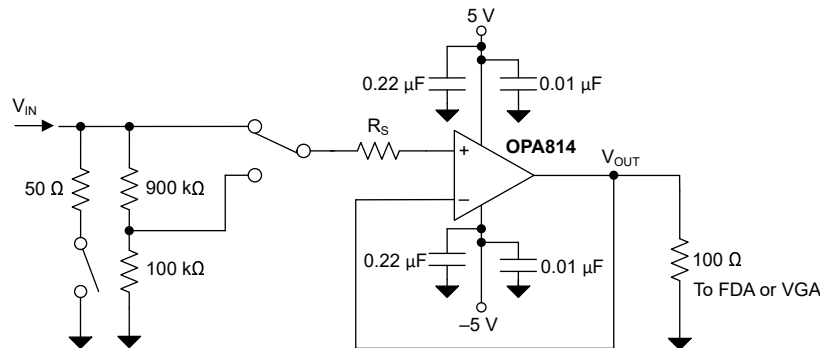
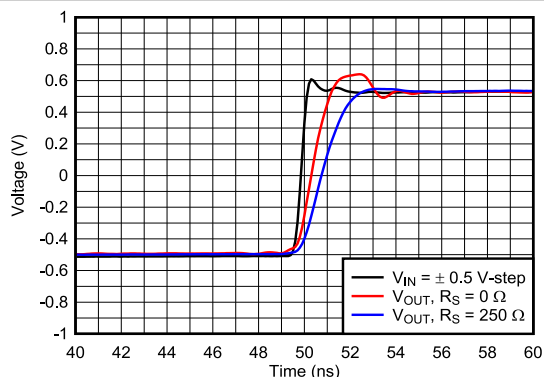
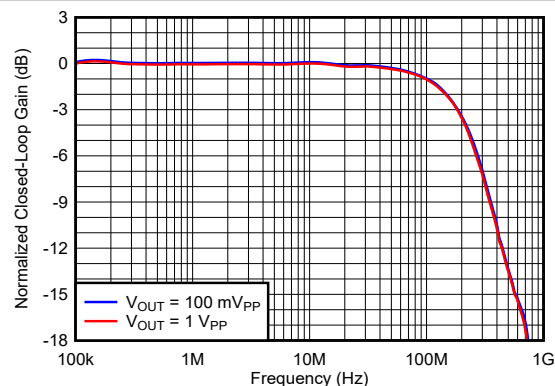

図 8-4. High-Input-Impedance, 180-MHz, Digitizer Front-End Amplifier
Figure 8-5. Step Response of Digitizer Front-End
Figure 8-6. Frequency Response for $R_S = 250 \, \Omega$
- Optimizing Overshoot:** The OPA814 features an internal slew-boost circuit to deliver fast rise-time in applications that require high slew rates, such as when configured as a transimpedance amplifier. For applications where overshoot must be limited, limit the input slew rates by introducing a series resistance (R_S); see also Figure 8-4. Resistor R_S forms a low-pass filter with an input capacitance of approximately 2.5 pF at the noninverting pin of the OPA814, thus limiting the input slew rate to the amplifier. Figure 8-5 shows how limiting the input slew rate to the amplifier results in good overshoot performance. Figure 8-6 shows how this configuration achieves a small-signal and large-signal bandwidth of 180 MHz.